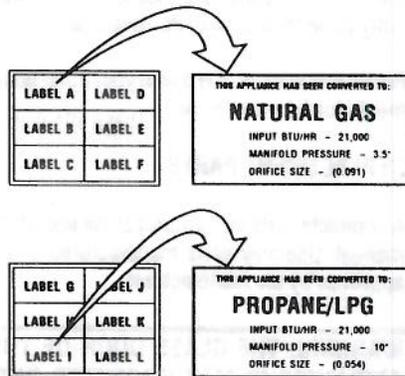

Figure 36
Step 10. Attach conversion kit label to the rating plate on the appliance; Label F for units converted to natural gas or Label L for units converted to propane (Figure 36).